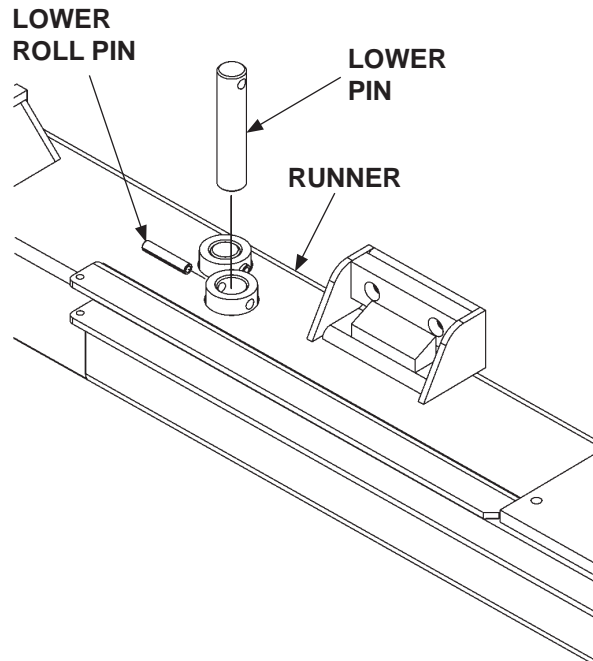

FIG. 28-2
15. Remove lower roll pin and lower pin. Pull out cylinder from runner (FIG. 28-2).